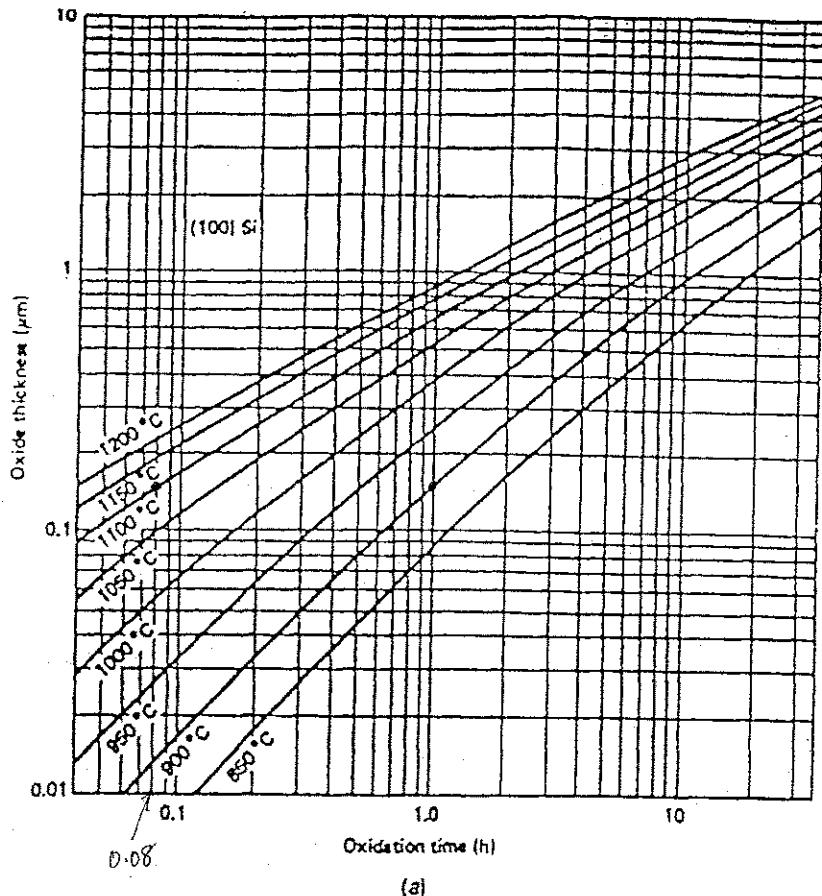

Figure 1: Wet Oxide Growth chart for (100) Silicon
(c) A bare (100) silicon wafer is subjected to 1 hr of wet oxidation at 900 °C followed by another wet oxidation cycle for 0.32 hr at 1100°C. What is the overall thickness of the oxide formed? Use the growth chart for wet oxidation in Si shown in Figure 1.